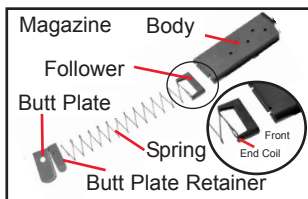

Figure 25
9. Remove the Magazine's Butt Plate Retainer, Spring, and the Follower from the bottom of the Magazine Body. See Figure 25.
6. Insert the Magazine Follower, Magazine Spring and the Magazine Butt Plate Retainer into the bottom of the Magazine Body. Orient the spring with the end-coil to the front of the magazine. See the insert in Figure 25. Orient the Magazine Butt Plate Retainer with the tab facing out.